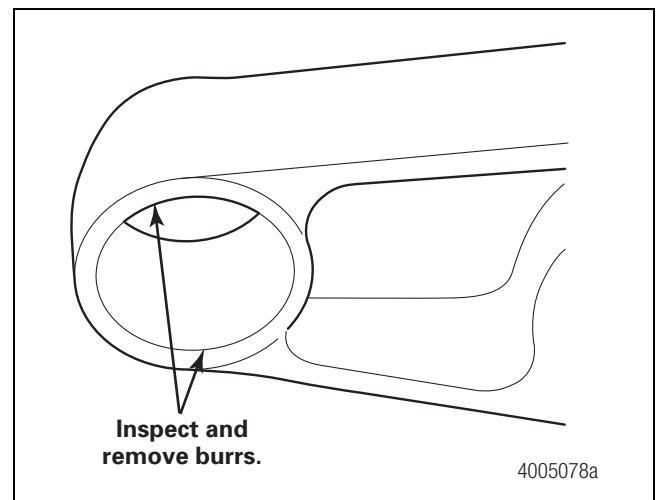
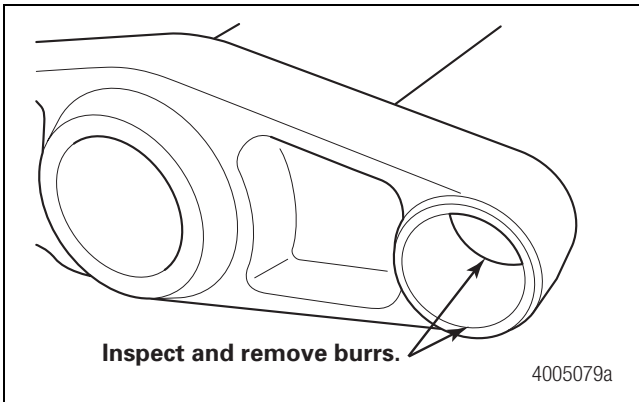

Figure 1
Figure 2
7. Remove the bushings and inner sleeves. Remove any burrs and clean the inside diameter of the upper control arm ends. Figure 1 and Figure 2.
21. Remove the bushings and inner sleeves. Remove any burrs and clean the inside diameter of the upper control arm ends. Figure 1 and Figure 2.